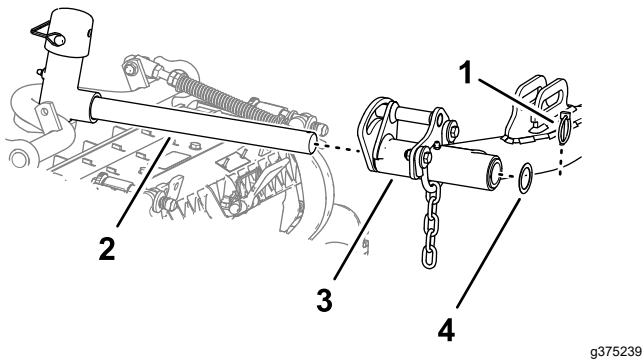

Figure 27
- Slide a cutting unit under the lift arm (Figure 27).